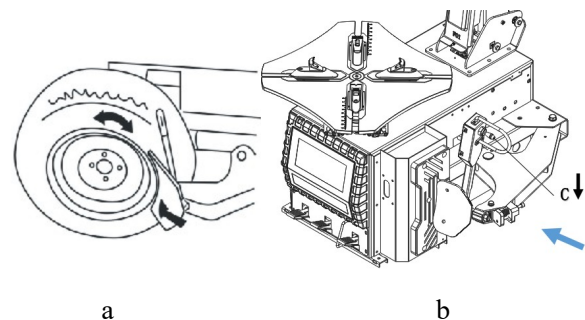

Fig.13
* Place the tyre between the separate shovel and rubber pad, put the shovel edge on the tyre bead, about 1 cm from the tyre rim(See Fig13-a), press the hand shank C(Fig 13-b), make the tire bead separate with the tyre rim.